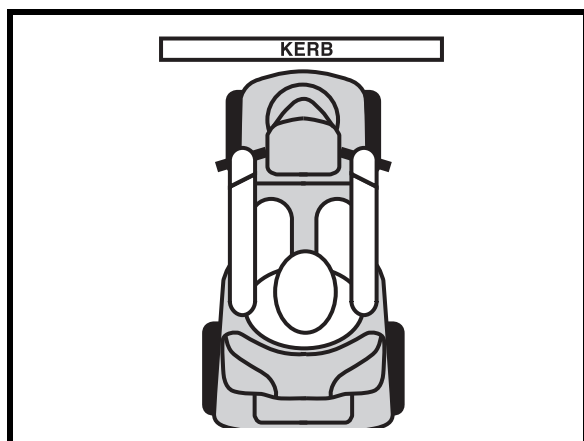

Figure 3. Correct Kerb Approach
1. Approach the kerb or obstacle slowly, and make sure the scooter is traveling perpendicular to the obstacle. See figure 3.
**WARNING!** Be sure your scooter is traveling perpendicular to any kerb you may be required to ascend or descend. See figures 3 and 3A.